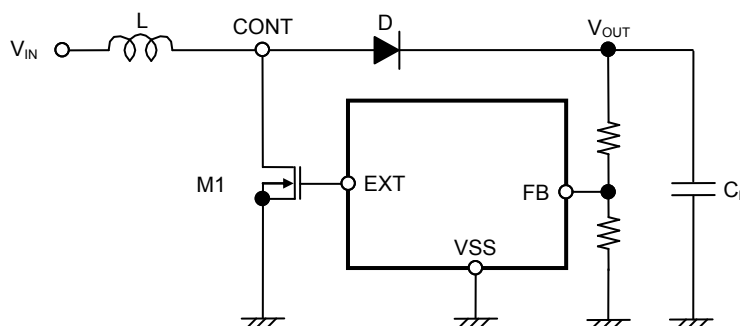

Figure 10 Step-up Switching Regulator Circuit for Basic Equations
The following are basic equations [(1) through (7)] of the step-up switching regulator (refer to Figure 10).